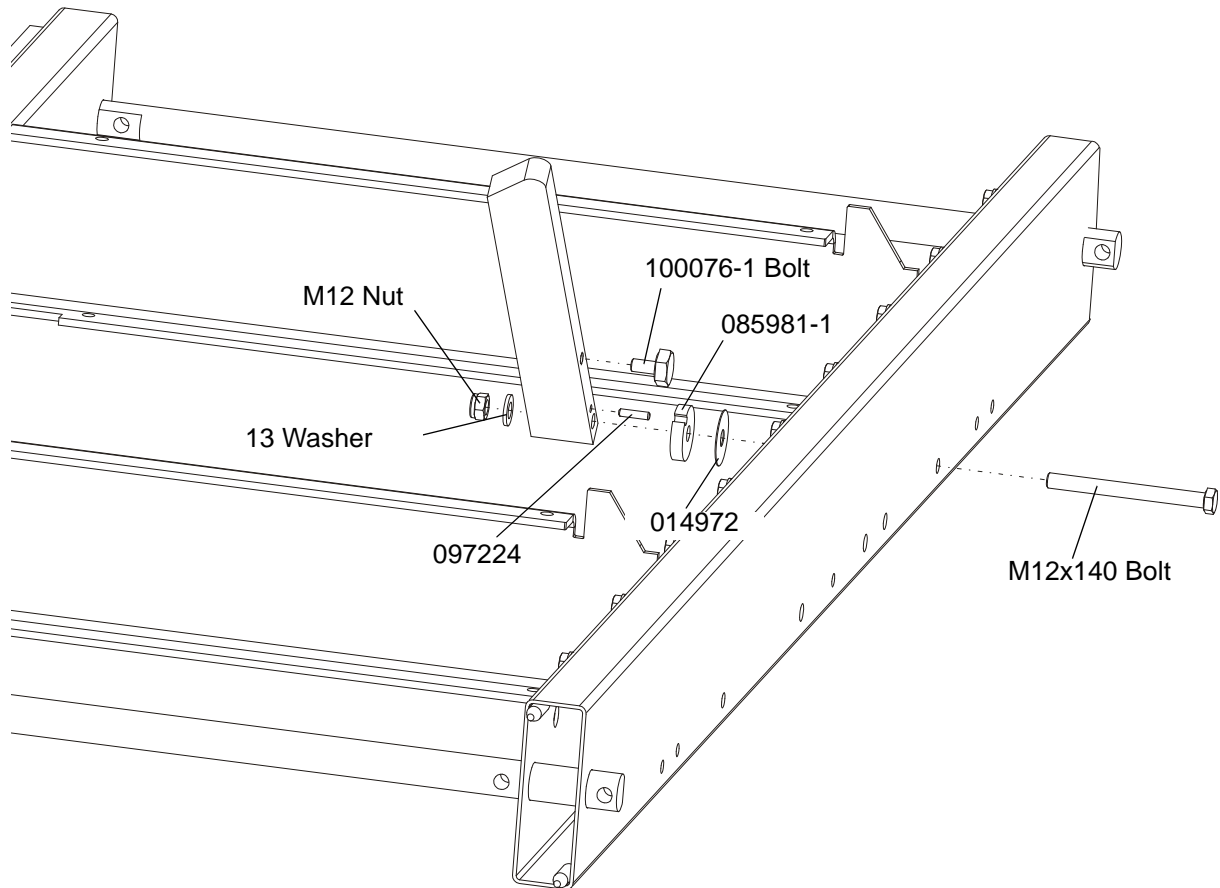

FIG. 2-8
8. Install the log side supports as shown in Figure 2-8. Tighten the nuts so that the side supports can be moved with little resistance. Adjust the side supports. See Section 6.11
See Figure 2-8.